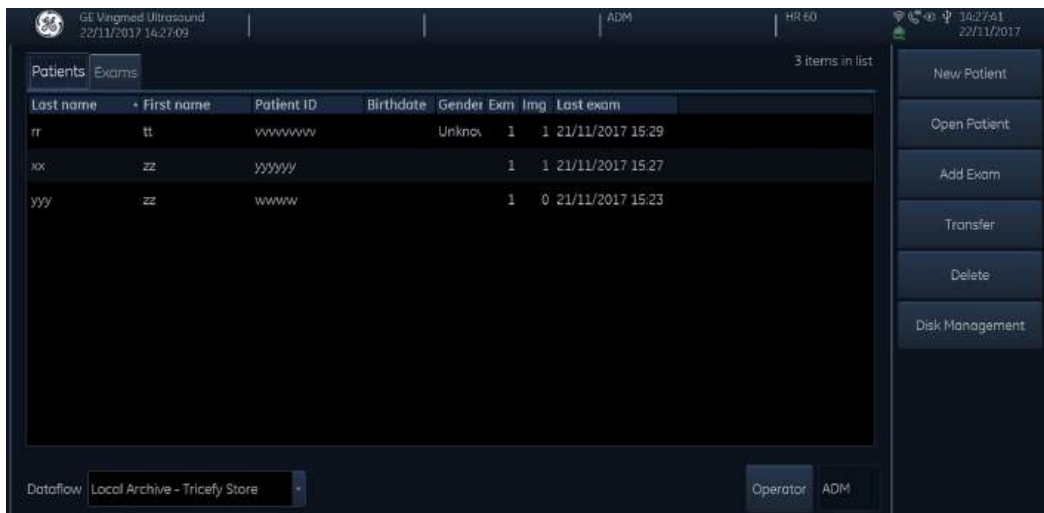

Figure 3-77. The Patients/Exams list
1. Press **Transfer** from the Patients/Exams list (see Figure 3-77).